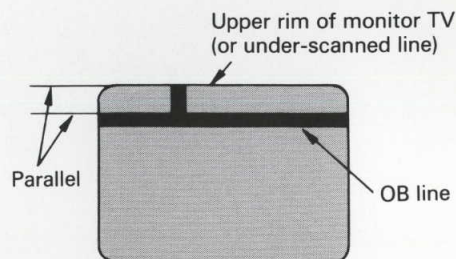

Fig. 3-7-3 OB line
- (2) As shown in **Fig. 3-7-3**, confirm whether the **OB line (black mask part)** of the pickup tube and the **upper rim** of the monitor TV are parallel or not.